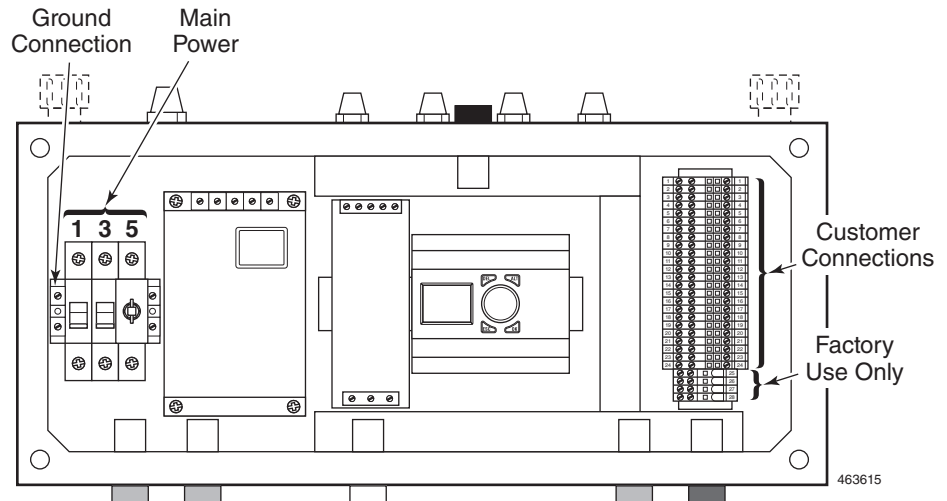

Figure 21
1. Install conduit and wire from the breaker panel to the left side of the control panel. See Figure 21.
3. On 3-phase systems, connect the three power feed wires to breaker poles 1, 2 and 3. On single phase systems, connect the two power feed wires to breaker poles 1 and 5 (do not disconnect factory wires connected to breaker pole 3). See Figure 21.
Door control signal wiring is done at the terminal blocks located inside the Control Panel, on the right side. See Figure 21. There are many signals used to control the door Operator. The most common are pull cord switches or stations, three button stations (i.e. open, close, stop) and radio control. All three may be used separately, in combination, or all together. The control circuit is 24 VDC. Consult local electrical codes before proceeding with permanent installation.
7. Connect the wires of one of the pull cord switches to terminal blocks #5 and #9. See Figure 21.
Connect Input/Output wires in a manner similar to the pull cord wires (above). Refer to the *Terminal Blocks* section of *Doors Operator Quick Reference* manual and to the *Input/Output Guidelines* sheets to know where and how to connect these devices. See Figure 21.